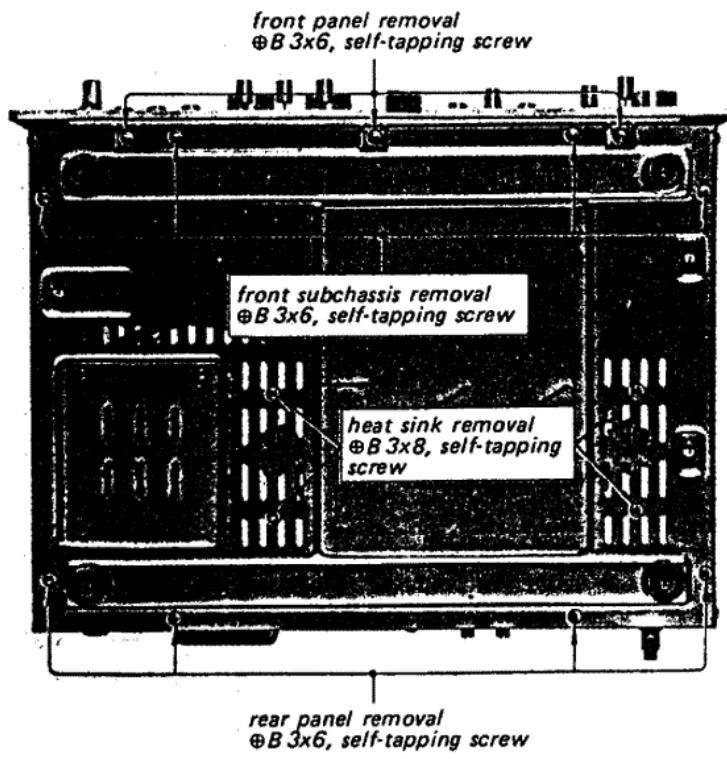
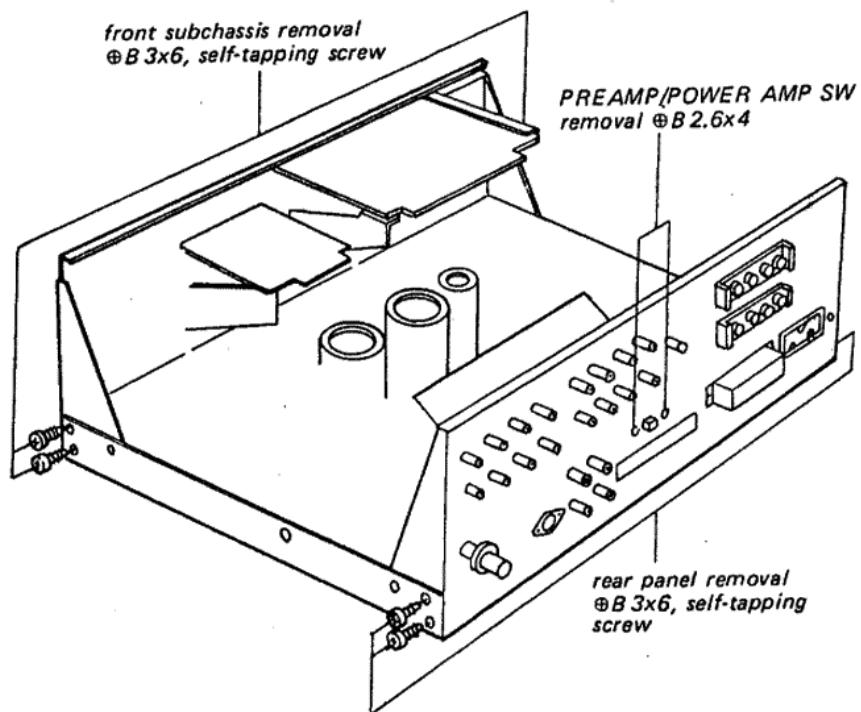

Fig. 2-3. Bottom view
Fig. 2-4. Front subchassis removal
4. Remove the three self-tapping screws (⊕ B 3x6) at the front bottom of the chassis as shown in Fig. 2-3. This frees the front panel.
2. Remove the two self-tapping screws ($\oplus B\ 3\times6$) at each side of the chassis (see Fig. 2-4) and four self-tapping screws ($\oplus B\ 3\times6$) at the front bottom of the chassis as shown in Fig. 2-3. This frees front subchassis.
2. Remove the two self-tapping screws ($\oplus B\ 3\times6$) at each side of the chassis (see Fig. 2-4) and four self-tapping screws ($\oplus B\ 3\times6$) at the rear bottom of the chassis as shown in Fig. 2-3. This frees rear panel.
2. Remove the two screws (# B 2.6x4) securing the switch to the rear panel as shown in Fig. 2-4.
2. Remove the two self-tapping screws (\oplus B 3x8) securing the heat sink to the chassis at the bottom as shown in Fig. 2-3.